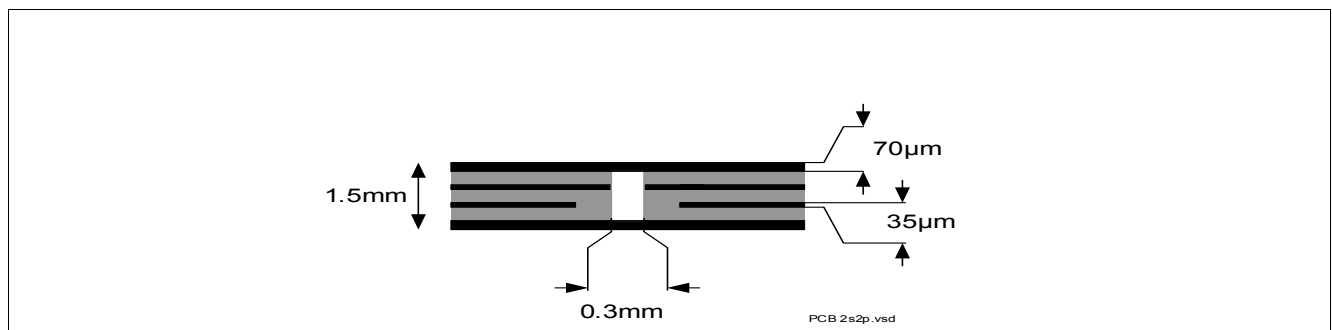

Figure 4 2s2p PCB Cross Section
2) Specified  $R_{thja}$  value is according to JEDEC JESD51-2,-5,-7 at natural convection on FR4 2s2p board; The product (chip + package) was simulated on a 76.4 x 114.3 x 1.5 mm board with 2 inner copper layers (2 x 70µm Cu, 2 x 35 µm Cu). Where applicable, a thermal via array under the exposed pad contacts the first inner copper layer. Please refer to Figure 4.